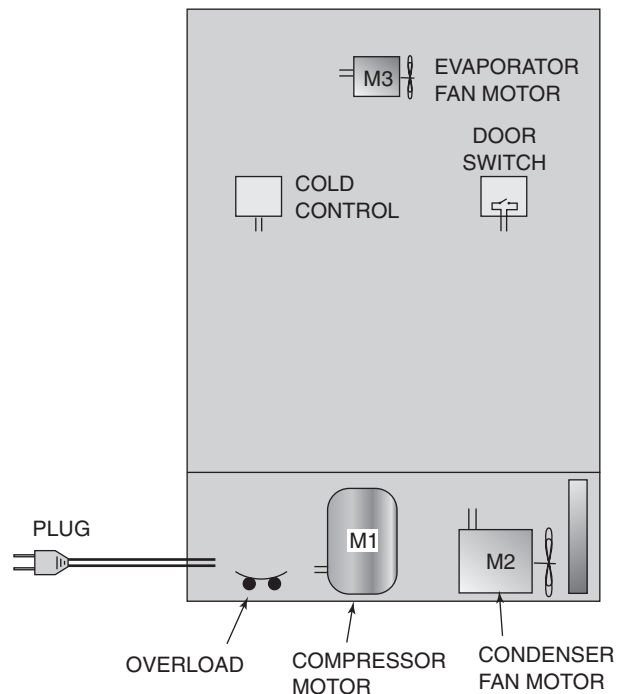

FIGURE 18-53 Exercise.
- Figure 18-53 shows a partial interconnection diagram for a freezer with a compressor, condenser fan, evaporator fan, overload, door switch, and cold control. Complete the wiring in accordance with the wiring diagram of Figure 18-16. For the sake of clarity, draw all wiring as vertical or horizontal lines.